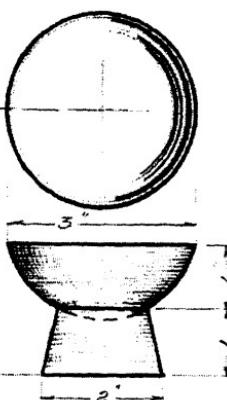

FIG. 4
7. With a chasing tool or punch give the edge a hammered finish (Fig. 4).